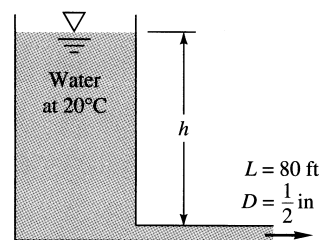

Fig. P6.61
**6.61** What level  $h$  must be maintained in Fig. P6.61 to deliver a flow rate of  $0.015 \text{ ft}^3/\text{s}$  through the  $\frac{1}{2}$ -in commercial-steel pipe?